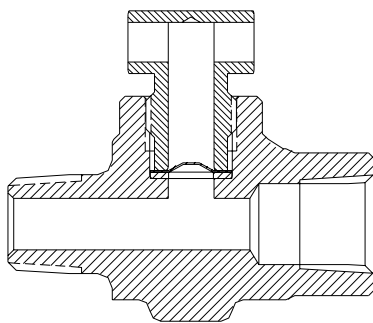

Figure 1: RV Series Rupture Disc Unit Cross Sectional View
4. Refer to Figure 1. Install the Rupture Disc in the Rupture Disc chamber in the Body.